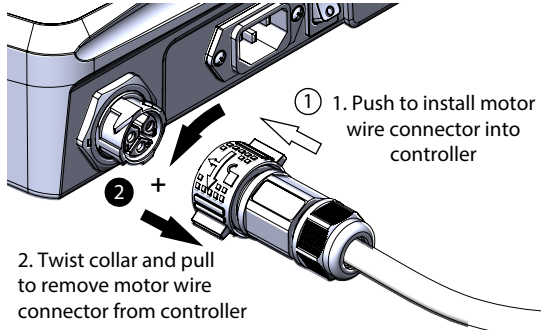

Figure 4: Connecting and disconnecting Motor Cable to Controller
3. To disconnect the motor cable, rotate the blue collar counter-clockwise (left) to release the lock. The connector can now be pulled out of the socket, as shown in Figure 4.